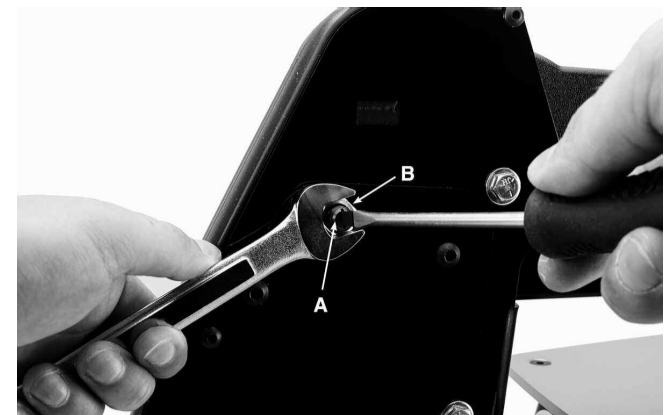

FIGURE 20
Over time with normal wear on the Scroll Saw, the upper arm adjustment screw (A) Fig.20 may need to be adjusted to hold the upper arm in the raised position. To reset the adjustment screw:
- 2) Loosen the lock nut (B).
- 3) Slowly turn the adjustment screw (A) until there is just enough tension to just hold the upper arm in the raised position.